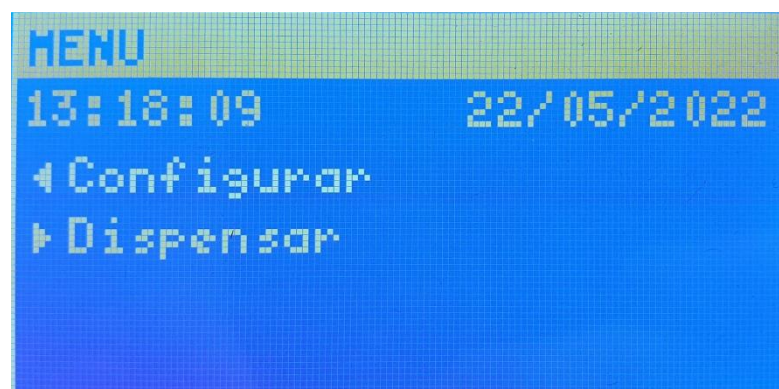

Figure 5- Initial menu screen
1. On the home screen (Figure 5), select “Configure” with the **← button** to access the configuration screen.